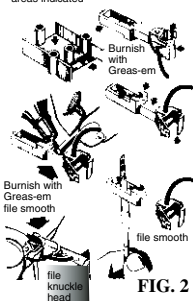

FIG. 2
1. Remove any flash and rough spots & burnish the "arrow" marked surfaces shown in Fig.2 with Kadee® '231 Greas-em to ensure trouble-free coupler performance.